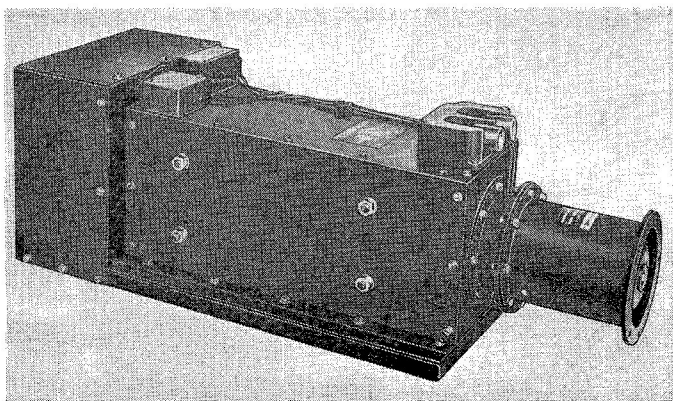

Fig. 1. Transformer-rectifier unit, Type AE.451
3. The transformer and the rectifier unit (fig. 1) are mounted on a common base, but each is enclosed in its own housing. Attached to the end of the rectifier housing is a blower unit which provides a cooling air flow through the unit. At the outer end of the transformer cover is a circular hole with eight 2 B.A. "Aerotight" hexagon nuts with double anchor plates riveted equidistant around its circumference. This allows for a tube connection to be made for exhaust of the cooling air.